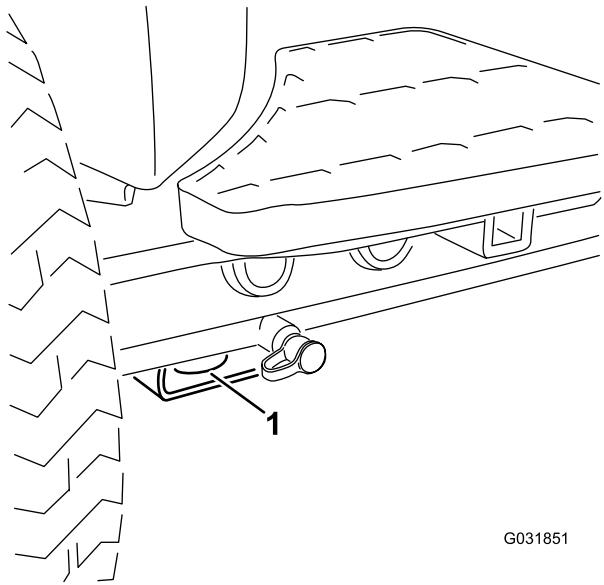

Figure 32
- Front—the hole in the rectangular pad, under the axle tube, inside each front tire (Figure 32)